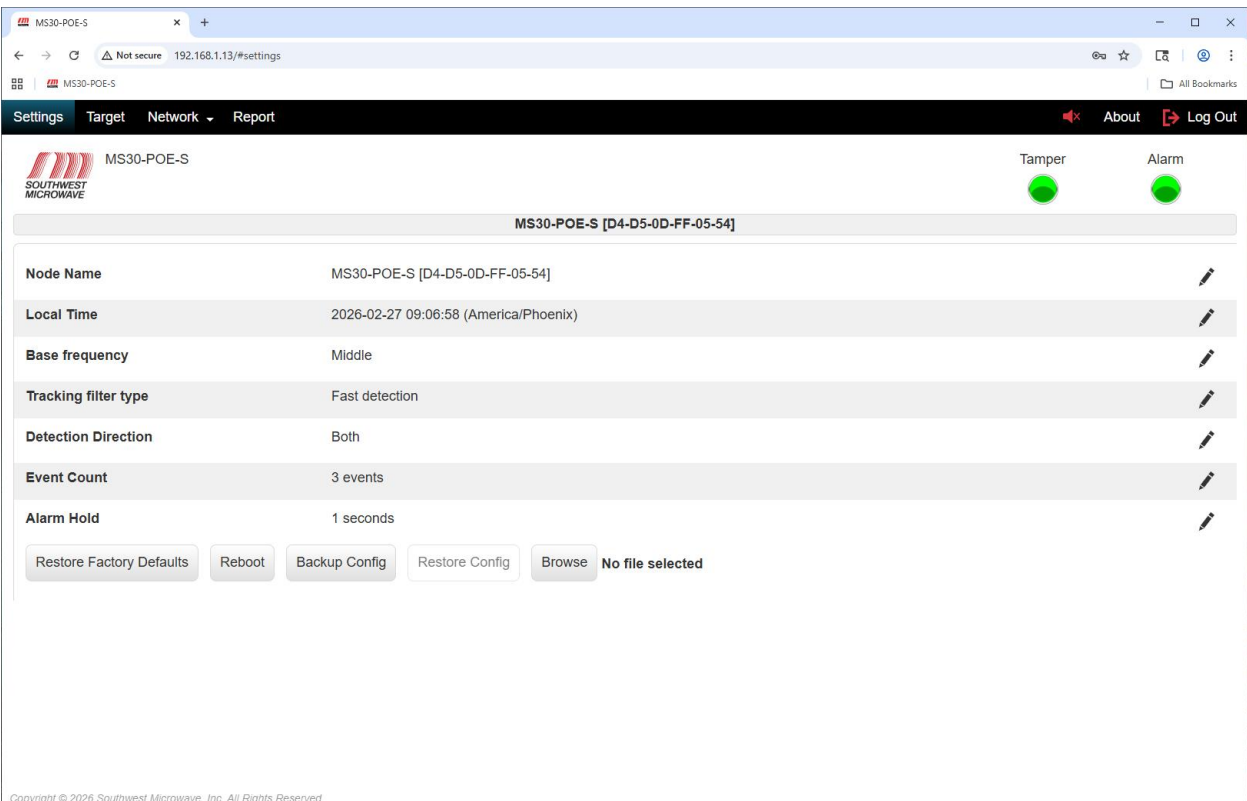

Figure 9.1 – Settings Screen
Once the login has been selected the IST will open to the “Settings” screen as shown in Figure 9.1. There are four (4) tabs that can be selected: Settings, Target, Network and Report. No matter which tab is selected the header and top banners will always be displayed. There is also an About button and Log Out button.